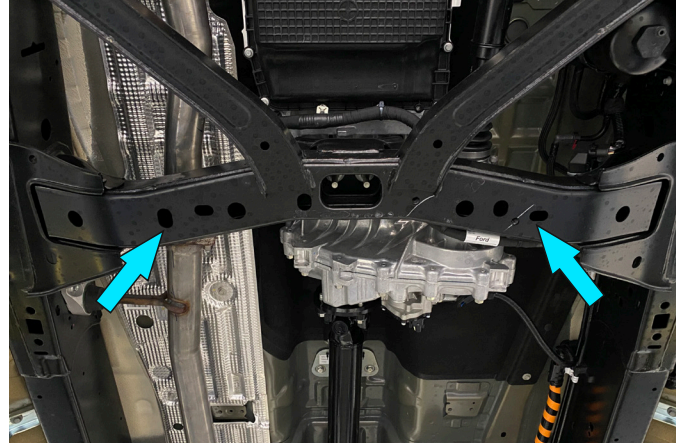

Fig. 2
2. Install M10 insert nuts (item F) and align with holes as shown in fig.2.